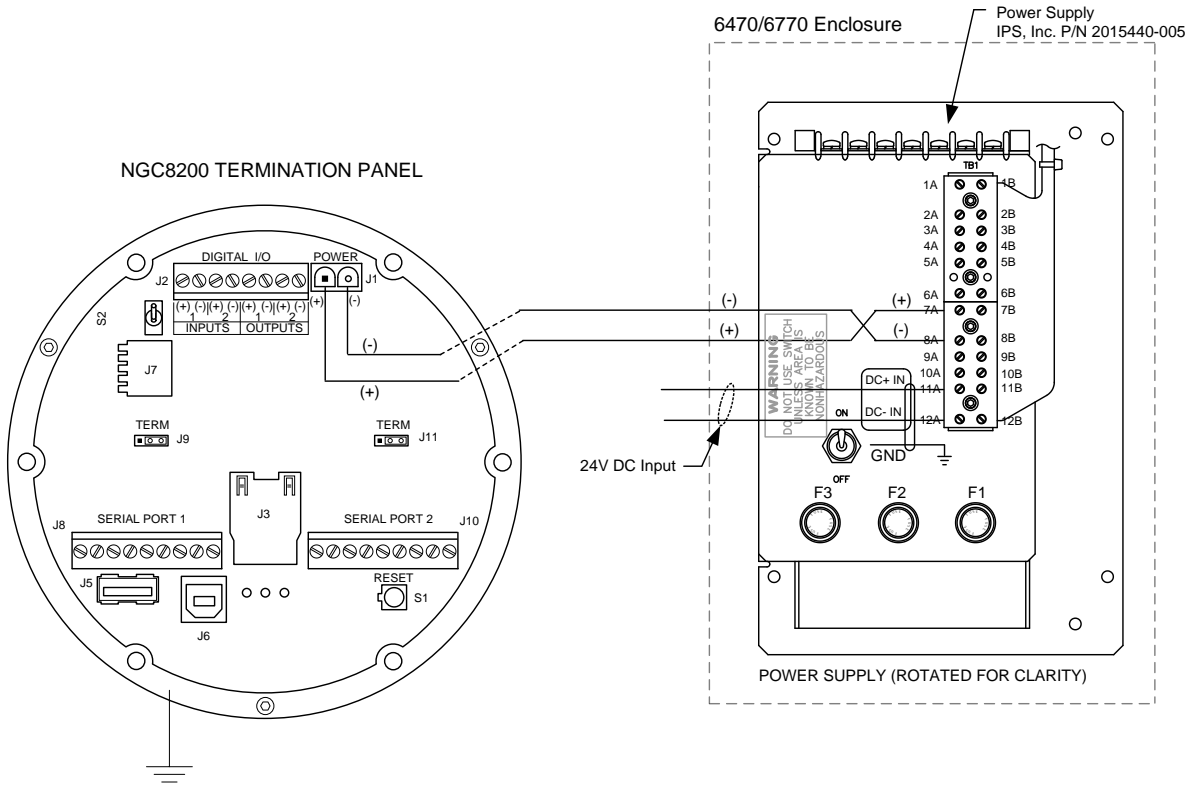

Figure 3-72 24 VDC/12 VDC Power Supply Converter
- 4) Using the wiring instructions in Figure 3-72, make field connections from the 24 VDC(+) and (-) source to TB1 terminal 11A (+) and terminal 12A (-) on the power supply.
- 6) Remove the J1 connector from the NGC termination panel. Using the wiring instructions in Figure 3-72 make the field connections from the power supply wire from the TB1 terminal 7A to the J1 connector (+) pin and connect the ground wire from TB1 Terminal 8A to the J1 connector (-) pin. Do not re-insert the J1 connector to the termination board.